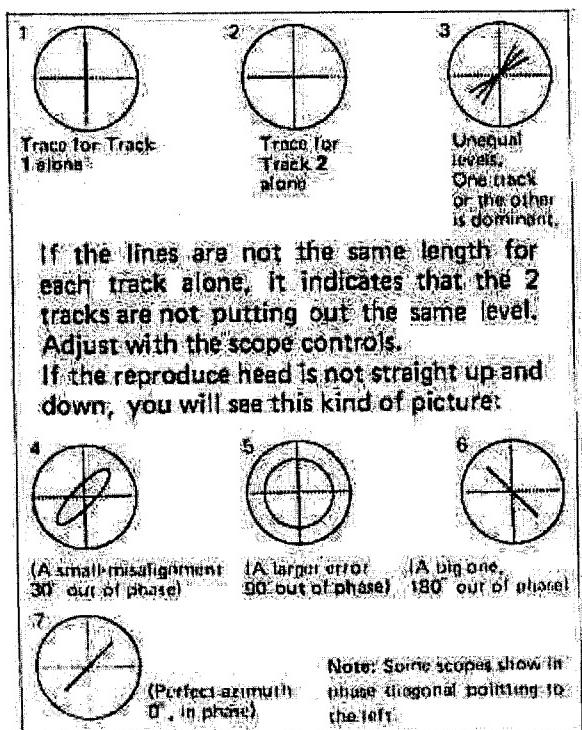

Fig. 9-5-7. Phase Shift
5. Load the reproduce alignment test tape to reproduce at a low speed of 7-1/2 ips. (19 cm/sec.). A scope display showing phase relations between both channels will be obtained as shown in Fig. 9-5-7.